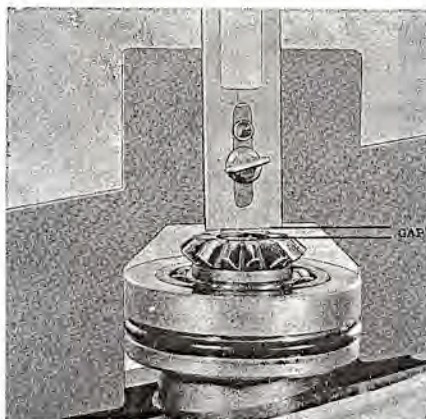

Fig. M65—Using the recommended tools to adjust transmission end play. Refer to text for details.
tween lower face of thrust washer (26) and the mounting flange of driveshaft housing. Measure and record the height of thrust washer face of lower drive shaft pinion (2—Fig. M66) above the mounting flange of gearcase housing (29). Subtract the second measurement from the first to obtain the existing clearance. Remove the transmission assembly and upper drive shaft (8—Fig. M64) and add or remove shims (42) as required to establish the recommended end play. Shims are available in thicknesses of 0.002, 0.003, 0.010, 0.020, 0.030 and 0.040. The manufacturer has designed a transmission gage (91-28987A1) which can be used to determine the shim pack thickness. See Fig. M65. When using the gage, omit one 0.010 shim (42—Fig. M64) from the previously installed shim pack, then measure the gap between lower drive pinion and the slide as shown. The measured gap indicates the thickness of shims to be added, as end play is provided for by the length of the slide on the gage.